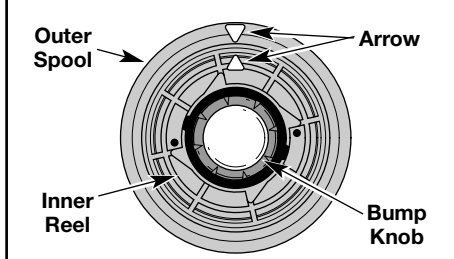

Fig. 13
1. Line up the arrow on the inner reel with the arrow on the outer spool (Fig. 13).